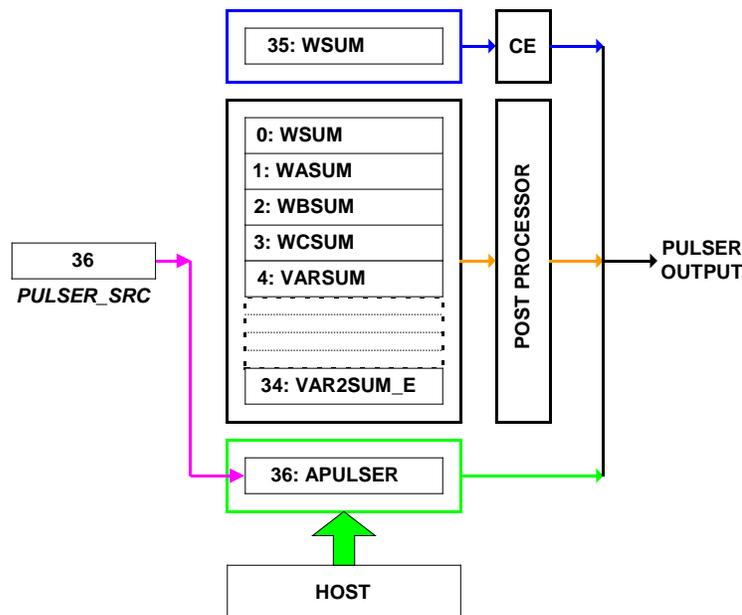

Figure 14: Pulse Generation via *APULSER* Selected in the *PULSER_SRC* Register
Figure 14 shows the registers that control the PULSEW, PULSER, PULSE3 and PULSE4 output pins if the corresponding *PULSE_SRCS* register contains the decimal value 36. This figure uses the *PULSER_SRC* 8-bit portion of the *PULSE_SRCS* register as an example: The internal pulse generation (CE) and the post-processor pulse generation are deselected, and the *APULSER* register acts as the pulse generation source. In this setting (external pulse generation), the host is responsible for updating the data in the *APULSER* register.